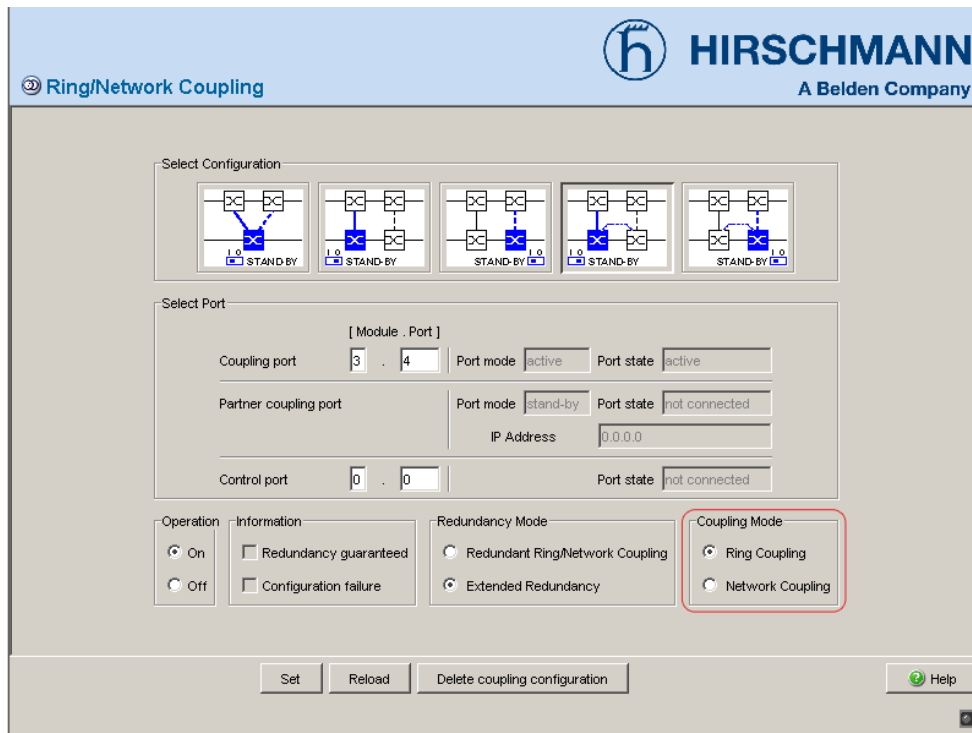

Figure 26: Selecting the coupling mode
- ☐ In the “Coupling Mode” frame, select (see fig. 26)